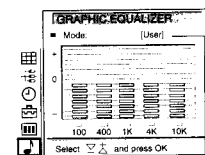

Fig. 34
- 1 Select »Sound Control« in the main menu, then select »Graphic Equalizer« using Δ or ∇ and press OK. The GRAPHIC EQUALIZER menu appears (See Fig. 34).